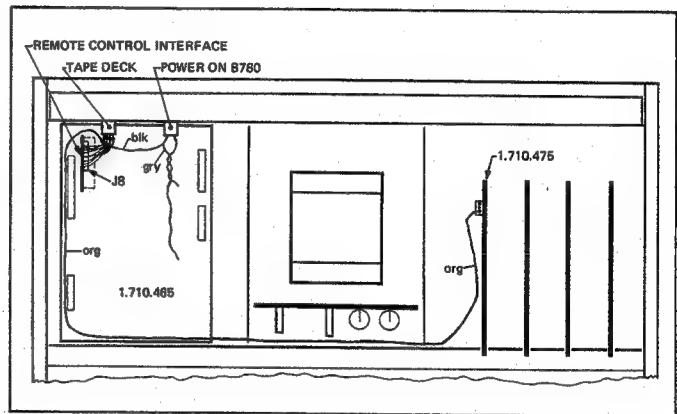

Fig.3.7
- Plug the REMOTE CONTROL INTERFACE PCB into the multi-point connector J8 (1.710.465) (Fig. 3.7).
- Run the orange cable along the existing cable harness to the AUDIO LOGIC CONTROL PCB 1.710.475 and plug it into the newly assembled multipoint connector (Fig. 3.7).